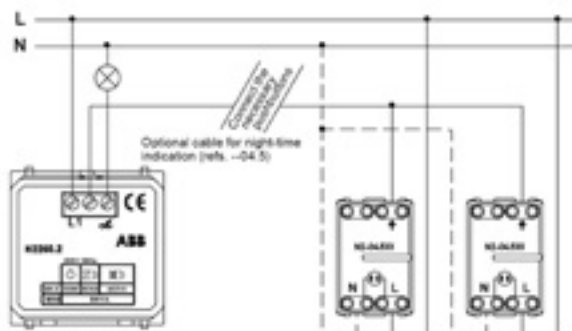

Figure 2: Special wiring diagram
The terminal marked "1" is used to exercise control from several points by means of conventional push buttons. See Figure 2.
The outputs of these push buttons are connected to terminal "1". See Figure 2.
1. Connect the device based on the corresponding wiring scheme. Figure 1 and Figure 2.